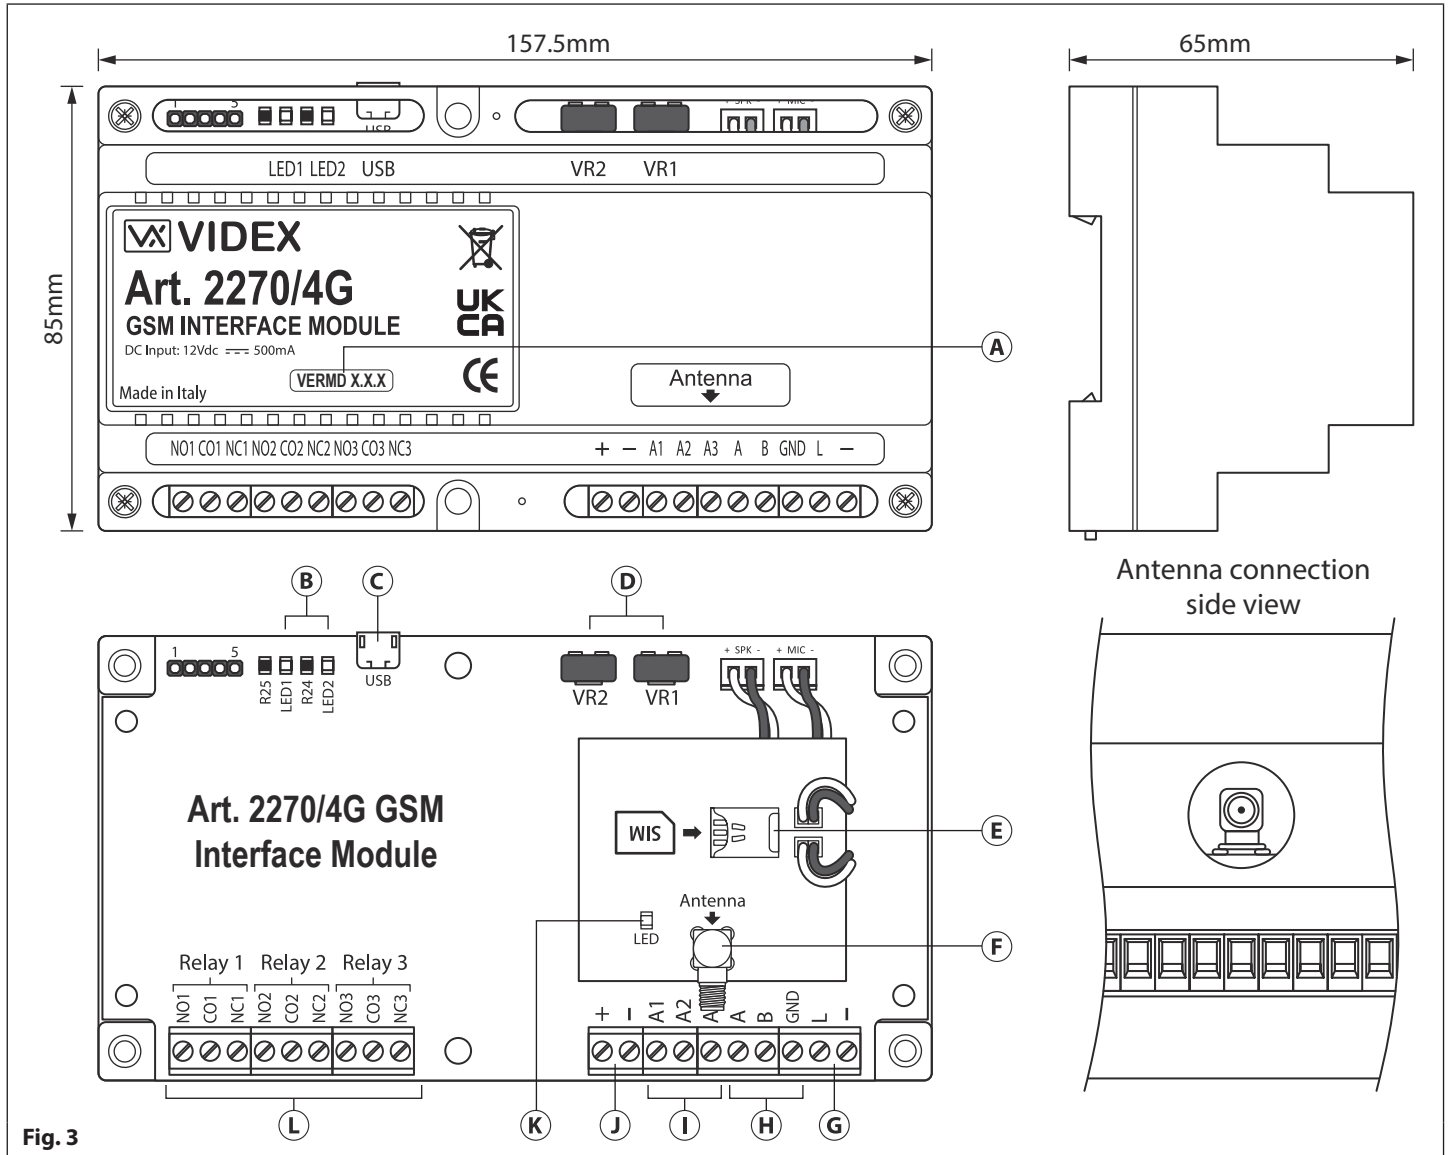
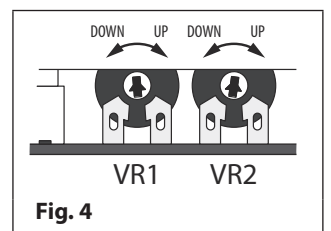

Fig. 3
Fig. 4
There are 2 volume adjustment POT's located on the top right side of the **Art.2270/4G** GSM module, **Fig.3**, (D). The **VR1** POT controls the speech volume towards the door panel (panel's speaker) and the **VR2** POT controls the speech volume towards the telephone line (panel's microphone). Additionally, the volume can also be adjusted during a call electronically via the telephone keypad (refer to user command table 1 on page nn). By default both **VR1** and **VR2** adjustment POTs are set approximately halfway, see **Fig.4**.